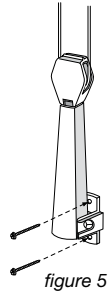

figure 5
1. Position the pulley so that it is hidden behind the drapery panel and gently pull the tension device down. In the position at which the cord is taught without being tight, attach the lower hole of the tension device to the wall or window casing by installing a #8 x 1½" screw (provided) (figure 5).